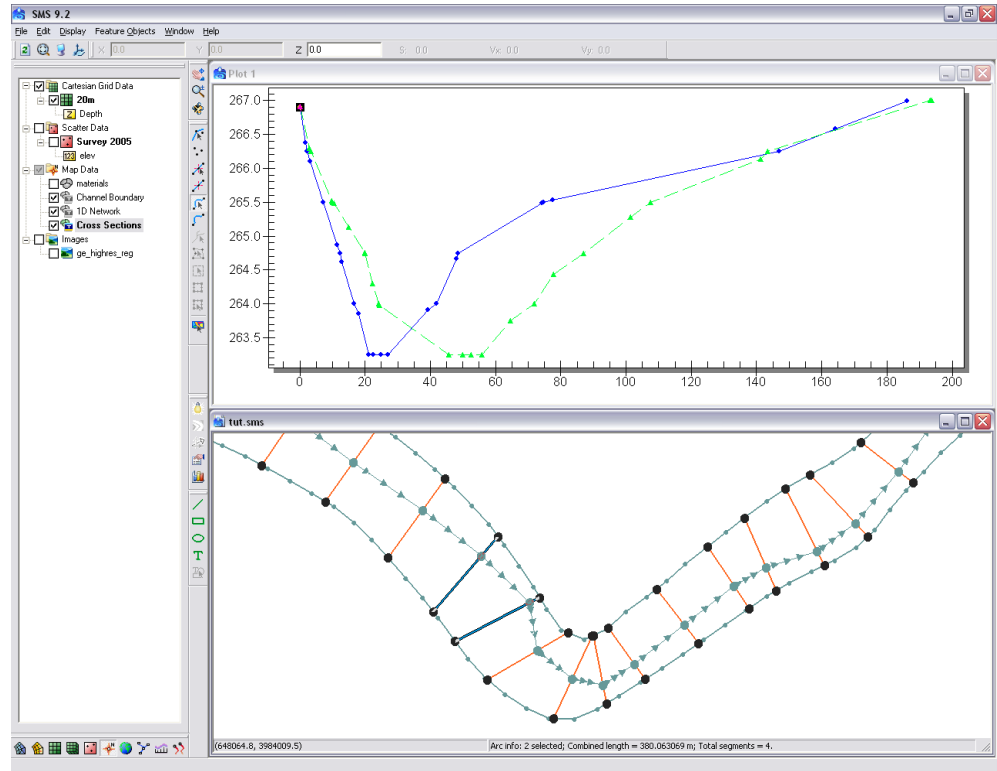

Figure 10 TUFLOW cross section plot
- Holding *Shift* while using the **Select Feature Arc**  tool allows selection and comparison of multiple cross sections. The last arc selected will be in blue, while the other arcs will be in green (Figure 10).